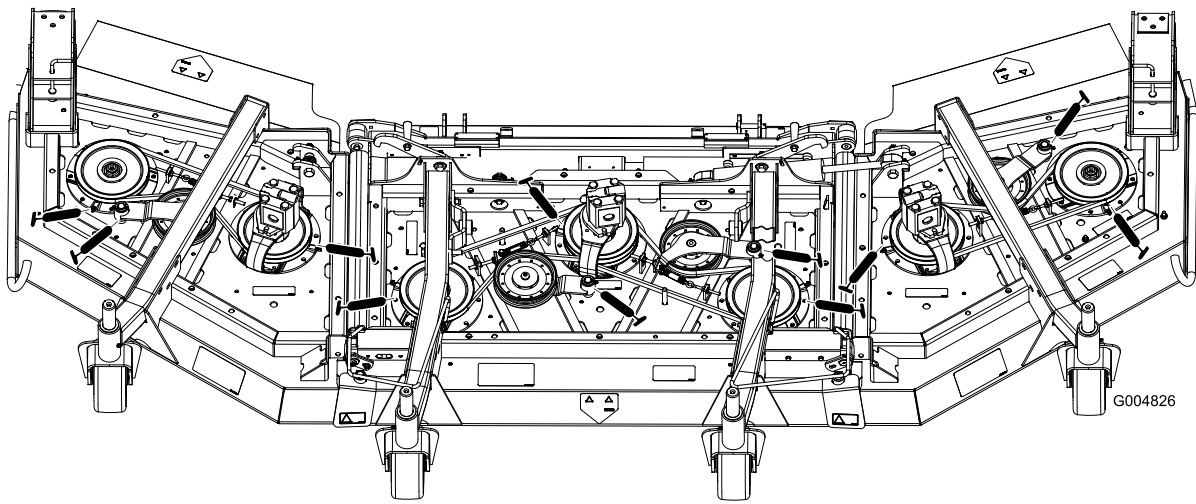

Figure 40
- 3 spindle-shaft bearings—located under the pulley (Figure 40)
- 2 idler-arm-pivot bushings (Figure 40)